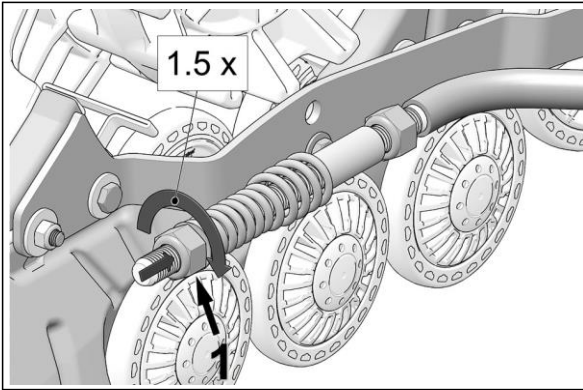

Figure 11
- Turn nut (1) until it comes in contact with the spring, then compress the spring by turning the nut 1 1/2 turns. See Figure 11.